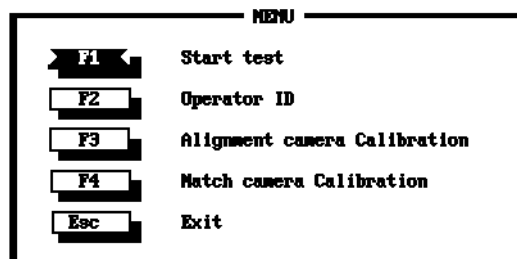

Figure 5-3. Main test stand menu
5. Turn on the test stand computer and wait for the main test stand menu (Figure 5-3) to appear on the system monitor.